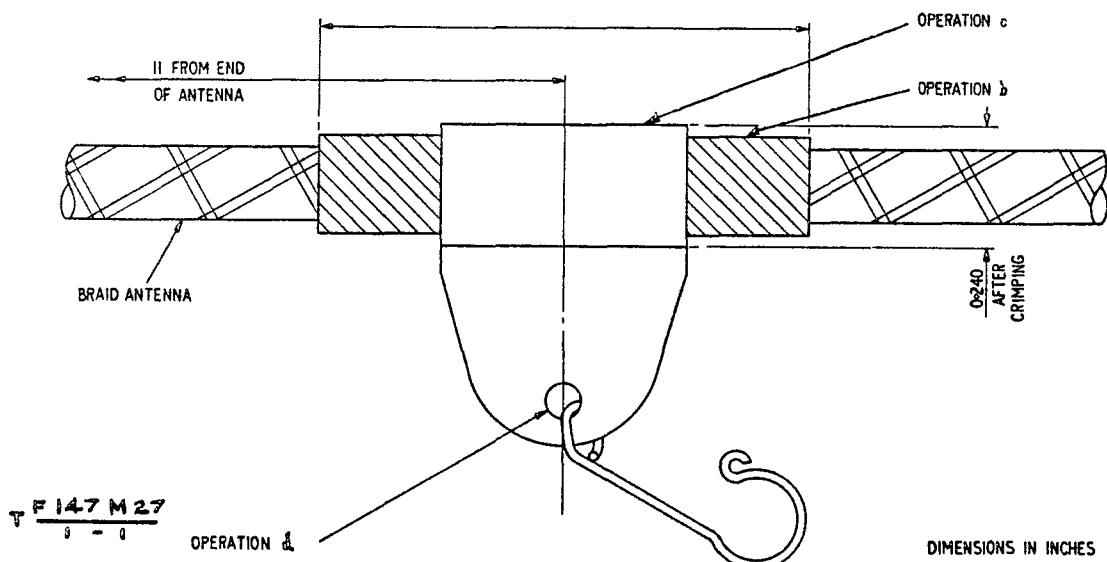

Fig 1 - Strain relief device
- b. Fit the sleeve binding, Plessey part number 70/9196 supplied in the modification kit, over the antenna and position it such that its centre is 11 in. from the plug end of the antenna (Fig 1).
- c. Fit and securely crimp the clip, Plessey part number 640/2/10478 supplied in the modification kit, to the centre of the sleeving fitted in operation b. (Fig 1).
- d. Fit the hook, Plessey part number 640/2/10479 supplied in the modification kit, to the clip fitted in operation c, by means of the smaller of the two eyes. Close the eye so that the hook will not become detached from the clip (Fig 1).